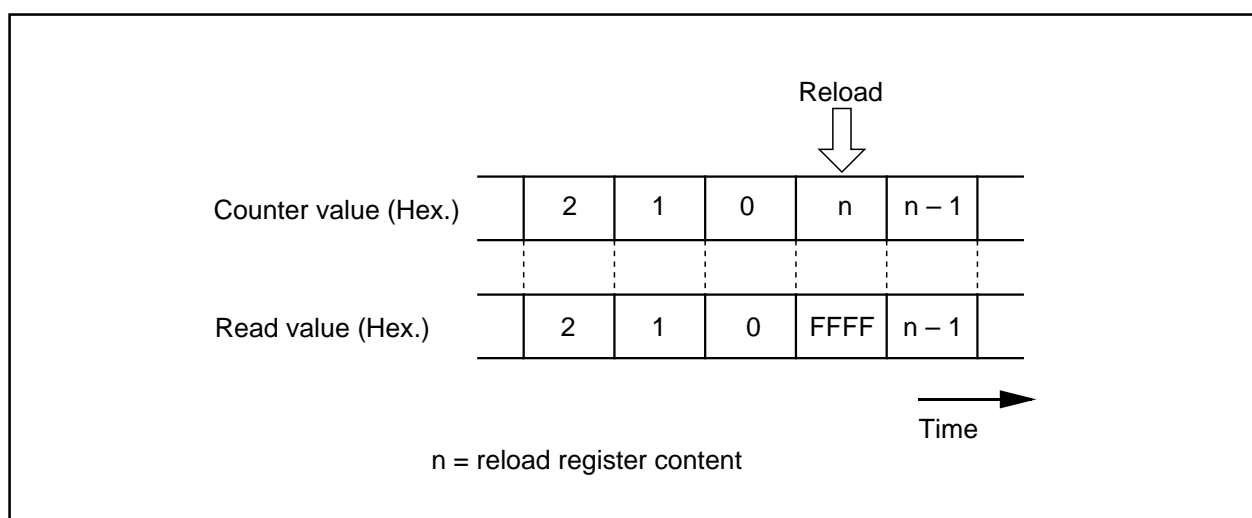

Figure 1.3.1. Reading timer Ai register
2. Reading the timer Ai register while a count is in progress allows reading, with arbitrary timing, the value of the counter. Reading the timer Ai register with the reload timing shown in Figure 1.3.1 gets "FFFF₁₆". Reading the timer Ai register after setting a value in the timer Ai register with a count halted but before the counter starts counting gets a proper value.